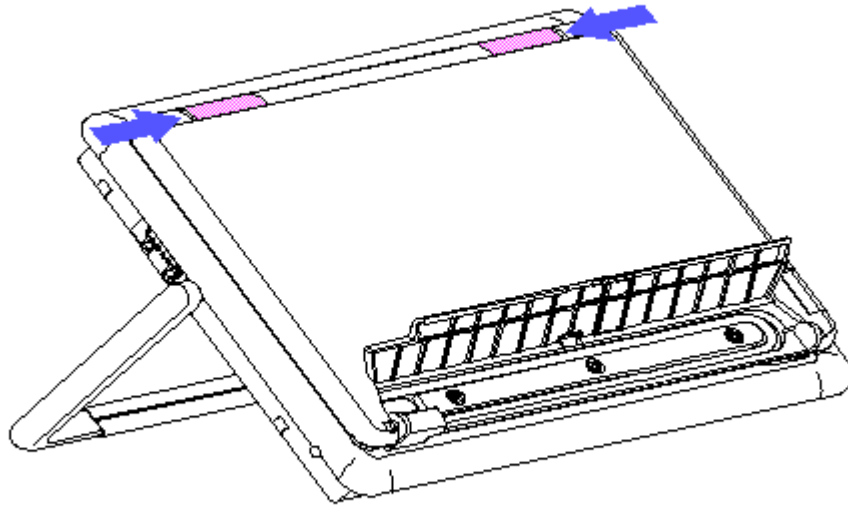

Figure 3-4. Unlatching the Keyboard
- b. Remove the keyboard cable from the tray (Figure 3-4).
- c. Release the keyboard by sliding the two latches toward the center of the keyboard (Figure 3-4).